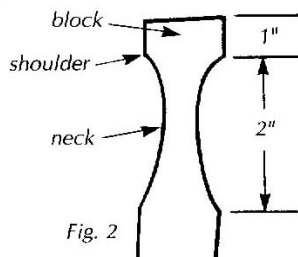

Fig. 2
3. Heat at end of cut 'C', lay across edge of anvil and bend 90 degree, but not real sharp. See fig. 2. Then while still hot, lay on horn of anvil and roll end down a little, this is the handle. Hammer out any saw marks.
5. Heat end 'B' and form small hooks. See Fig. 2. Have a piece of side link chain from a set of car tire chains ready to put in closed hook, before closing hook. Chain should be about 18-20 inches long. Cut the last link on one side and form hook to hold pot.
After quenching, turn the piece around and heat the other end, squaring it up as before. Take a second heat about 2" back from the end and with 1" hanging over the far side of the anvil, hold it on its edge and hammer a neck into the bar as shown in Fig. 2. This narrow neck area will be more than 1/4" thick now, so turn the flat side to the anvil and reduce the neck back down to 1/4". Turn it onto its edge again and rework it until the piece is nicely tapered at the neck. The neck area just toward the shoulder should be a somewhat thinner taper (1/4" to 1/8"). Leave the block 1" x 1/4" - you'll need the mass to make a fiddle head scroll on this end.